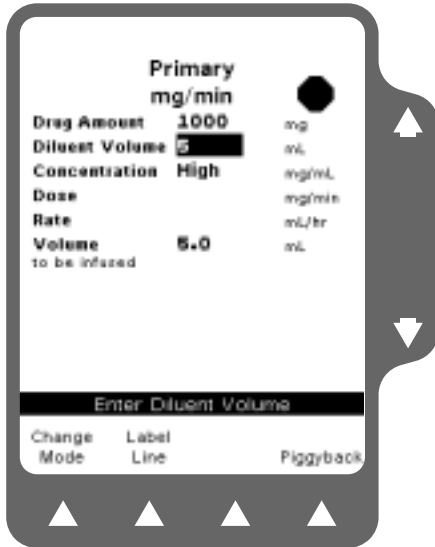

Figure 5-10 Value High Prompt
- Enter the desired Diluent Volume (Figure 5-10).
Note: The pump calculates the concentration as you enter diluent volume. In Figure 5-10, the concentration is too high because the pump is calculating as the numbers are being entered.